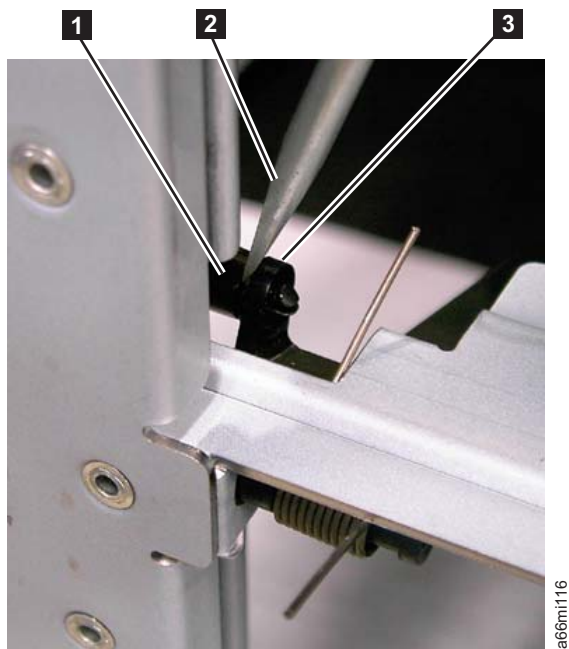

Figure 8-30. I/O Safety Flap Link
4. Disconnect the plastic link (**1** in Figure 8-30 on page 8-33) from the bottom flap (**3** in Figure 8-30 on page 8-33). Use a small screwdriver (**2** in Figure 8-30 on page 8-33) to pry the link out of the hole in the bottom flap.